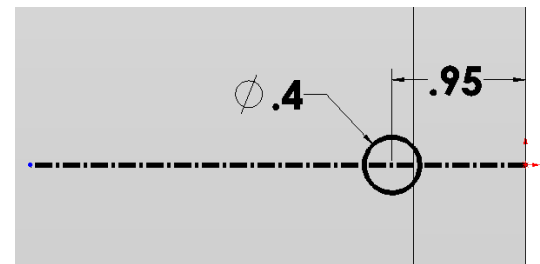

Fig. 21
Step 7. Sketch a circle on centerline, Fig. 21.
Step 8. Click **Smart Dimension** (S) on the Sketch toolbar.
Step 9. Add dimensions, Fig. 21.